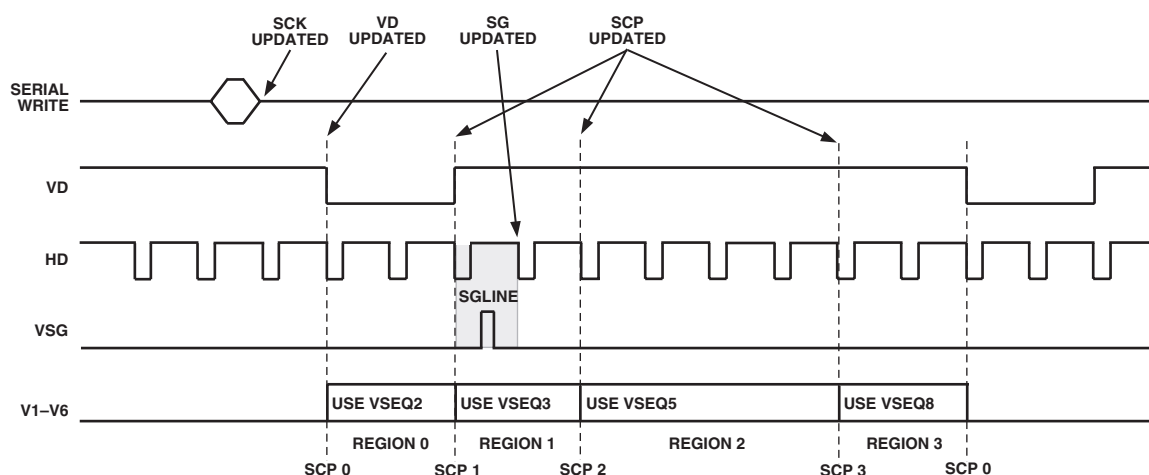

Figure 42. Register Update Locations (See Table XV for Definitions)
4. **SCP Updated:** In Bank 2, all of the V-pattern group and V-sequence registers (addr 0x00 through 0xCF, excluding 0x7F) are updated at the next SCP, where they will be used. For example, in Figure 42, this field has selected Region 1 to use V-Sequence 3 for the vertical outputs. This means that a write to any of the V-Sequence 3 registers, or any of the V-pattern group registers that are referenced by V-Sequence 3 will be updated at SCP1. If multiple writes are done to the same register, the last one done before SCP1 will be the one that is updated. Likewise, register writes to any V-Sequence 5 registers will be updated at SCP2, and register writes to any V-Sequence 8 registers will be updated at SCP3.